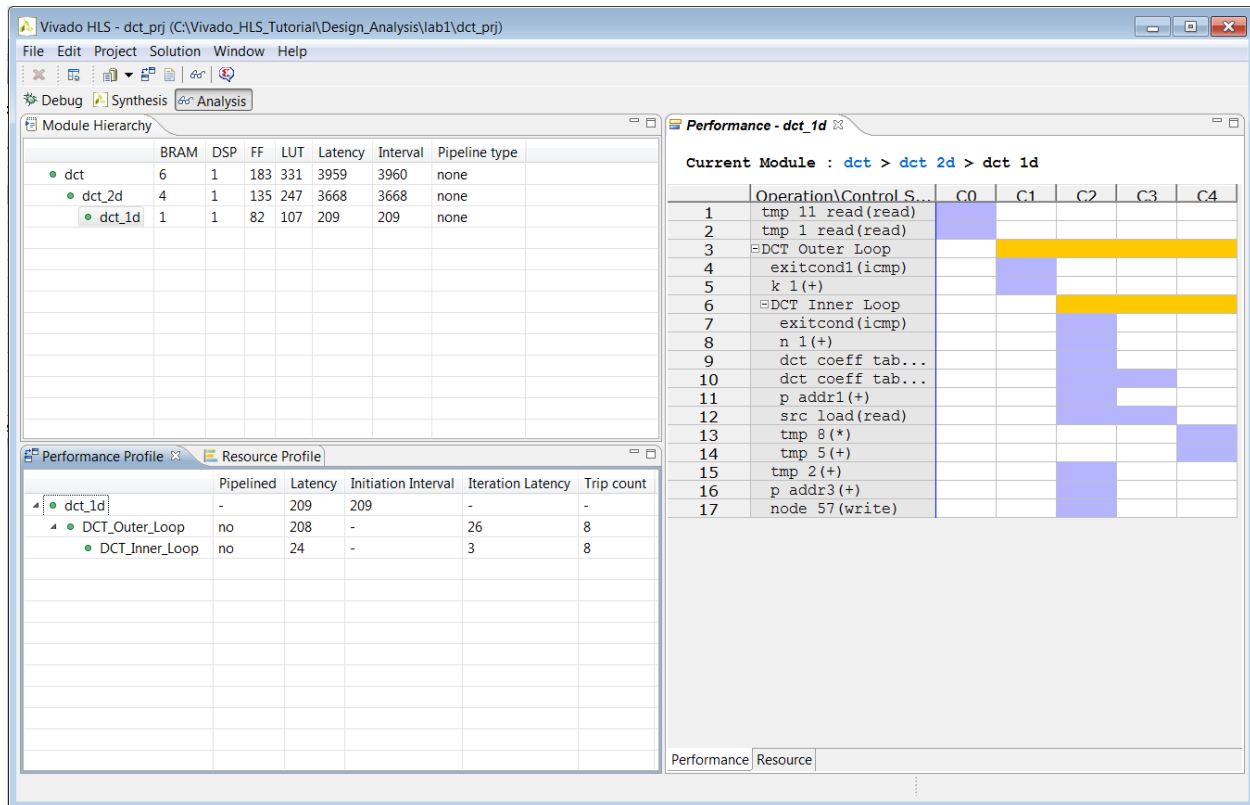

Figure 117: DCT_1D Performance View
- Click loops Row_DCT_Loop and Col_DCT_Loop in the performance viewer to fully expand them, as shown in Figure 117.
- Expand the loops in the Performance Profile and Performance view to see the view shown in Figure 117.
In **Figure 117** you can see a series of nested loops which can be pipelined.